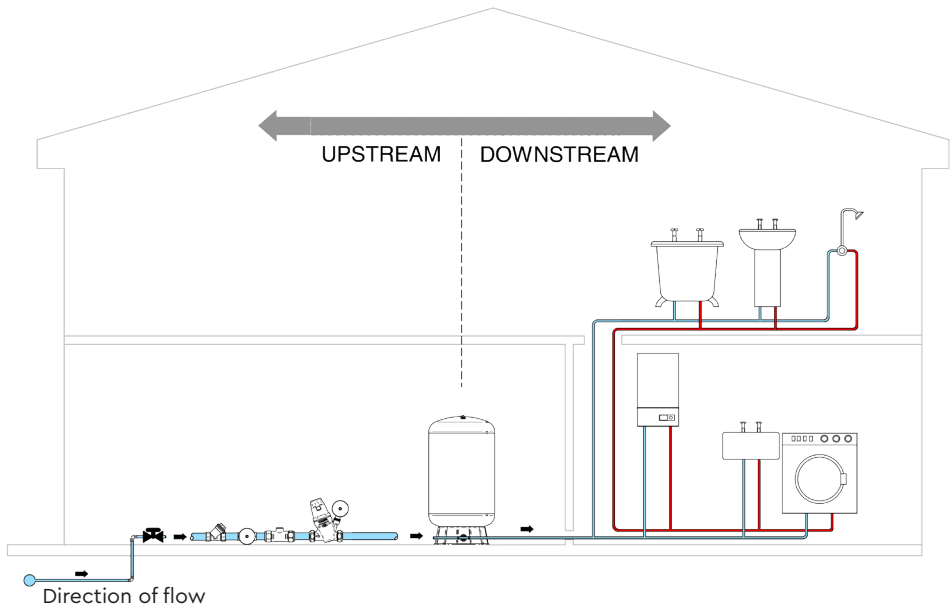

Fig. 3 System designation
3.16 **Direction of flow:** See Fig. 3 to identify the suction and discharge connections.
The term 'Downstream' refers to the system configuration from the outlet tapping on the Mainsboost vessel, along the distribution header (if configured in this way) and into the distribution pipework and outlets. This includes hot and cold services where both are present (see Fig. 3).